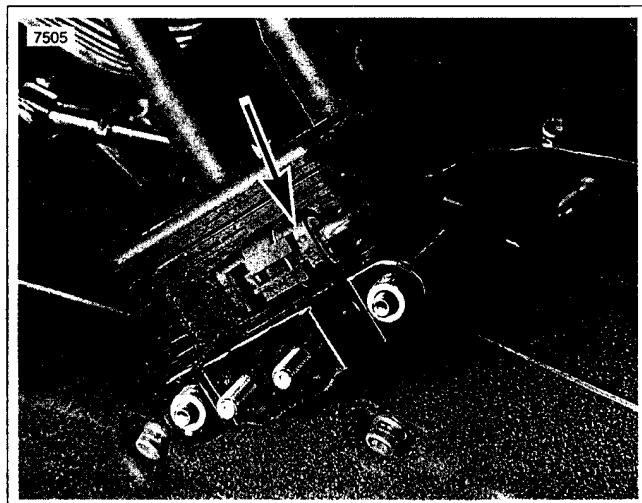

Figure 8-7. Coil Connector [83]
5. See Figure 8-7. Disconnect coil connector [83] from coil.
2. See Figure 8-7. Attach coil connector [83].